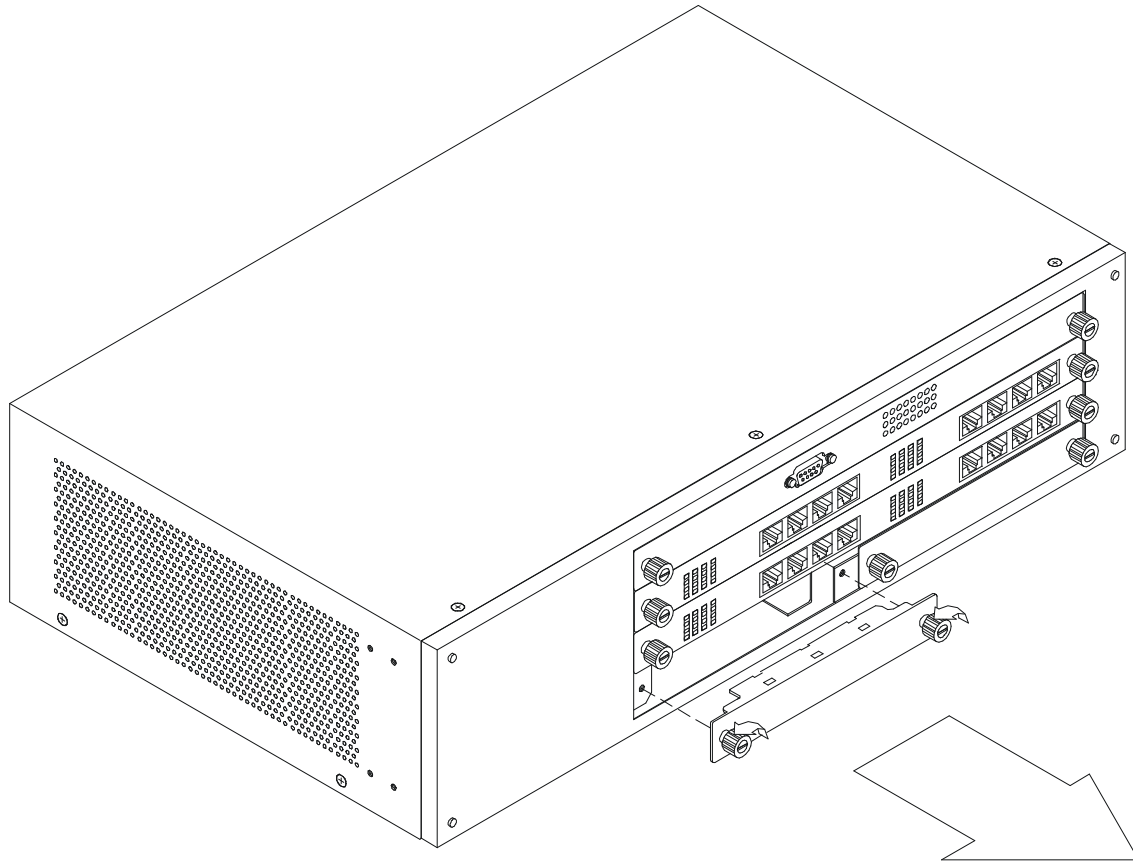

Figure 9: Remove Blank Bracket
2. Grasp the thumbscrews on the sides of the optional module or blank bracket and turn counterclockwise to unscrew them. You can also use a screwdriver. Remove the old module or the blank bracket, as shown in Figure 9, and set aside. Do not discard the module or blank bracket. Put the module or blank bracket back in if you remove the new module.